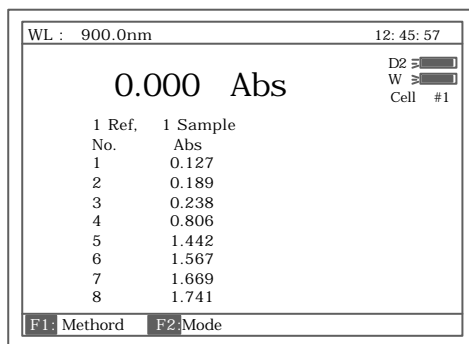

Fig 107
8. Remove 8 references and put 8 samples into CELL NO.1-NO.8, Press the **START**, the results are taken automatically. Fig 107.